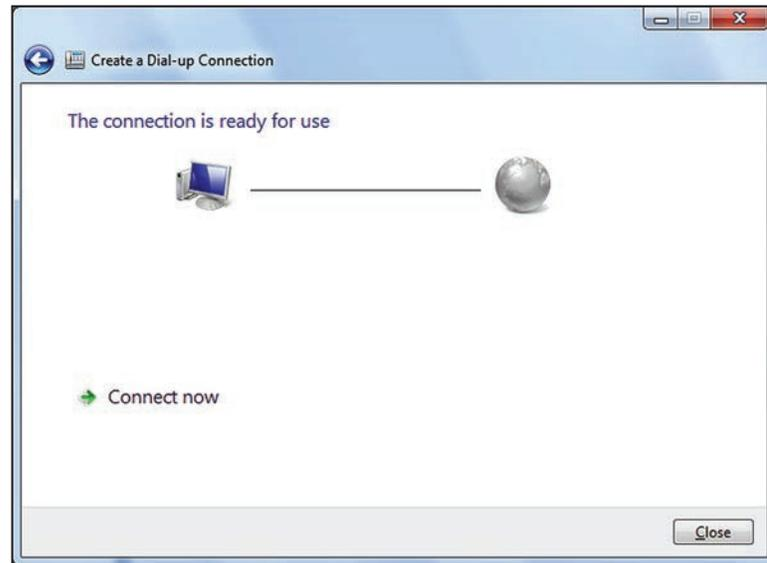

Figure 14. The Create a Dial-up Connection dialog box showing the connection is ready for use.
STEP 6. When the Create a Dial-up Connection dialog box opens showing the connection is ready for use, click on the **Close** button. See Figure 14.